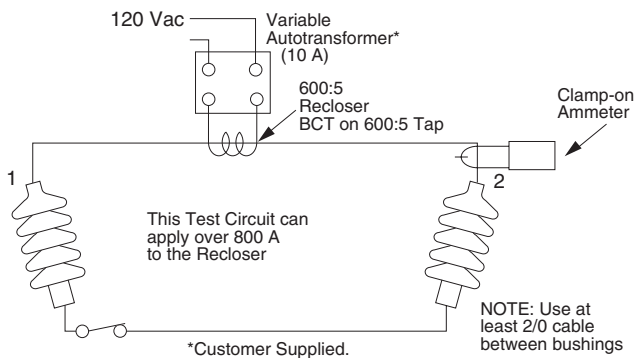

Figure 12.
The minimum-trip current can be checked by using the manual closing tool to close the recloser while it is de-energized and then tripping the recloser with the low-voltage ac source. Assemble and connect the low-voltage test portion of the set-up shown in Figure 12 and proceed as follows:
2. Connect the low-voltage test leads to the recloser bushings as shown in Figure 12.
2. Assemble and connect the low-voltage test portion of the set-up shown in Figure 12 and proceed as follows:
4. Connect the low-voltage test leads to the recloser bushings as shown in Figure 12.